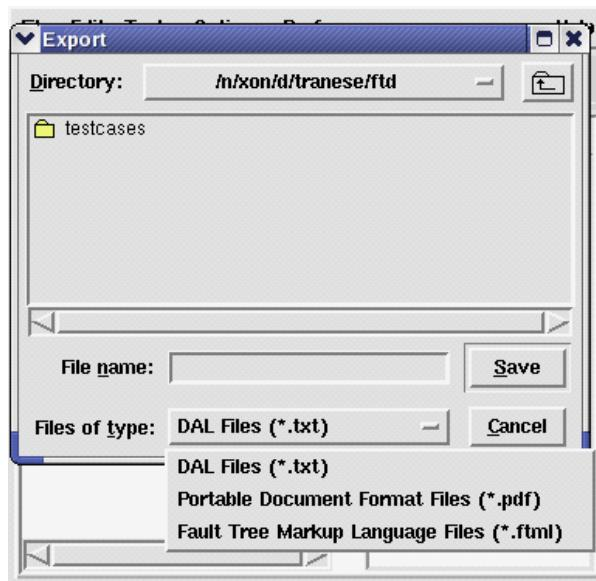

Figure 10. Export dialog box.
The “Export” command exports fault trees to Portable Document Format (PDF) and FTML file formats. This command also exports DALs to tab-delimited text files. To export fault trees or DALs, the user needs to select “Export” from the File menu, enter a file name, select a file type, and press the Save button (see figure 10).
- DAL file – To export a DAL to a file, the user needs to enter the desired file name and ensure that the selected file type is DAL Files (see figure 10). The DAL will be written
- PDF file – To export a fault tree to a PDF file, the user needs to enter the desired file name and ensure that the selected file type is Portable Document Format Files (see figure 10). Only the active system will be written to the file. The PDF can be viewed using Adobe Acrobat Reader. It can also be inserted into a Microsoft Word document or PowerPoint presentation. Note that file names need to be saved with a .pdf extension.
- FHTML file – To export an FHTML file, the user needs to enter the desired file name and ensure that the selected file type is Fault Tree Markup Language Files (see figure 10). Only the active system will be written to the FHTML file. Attribute information such as fill color and font style will not be stored. When an FHTML file is opened in FTD, the default colors and font style will be displayed. Note that file names need to be saved with an .fhtml extension.